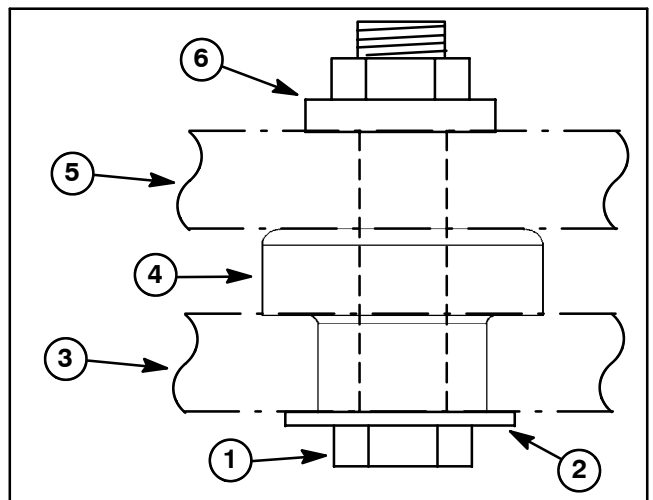

Figure 25
1. Position transaxle assembly to the engine tray. Secure transaxle to the tray with four (4) flange nuts (item 12) and flange head screws (item 16).
2. Make sure that isolation mounts (item 17) are positioned in the swing arm so that the flange is positioned between the swing arm bracket and engine tray location (Fig. 25).
4. Secure the transaxle to the swing arm with four (4) cap screws (item 3) and flat washers (item 2).
A. Align engine tray to swing arm. Insert cap screw with flat washer up through swing arm bracket, isolation mount and engine tray (Fig. 25).